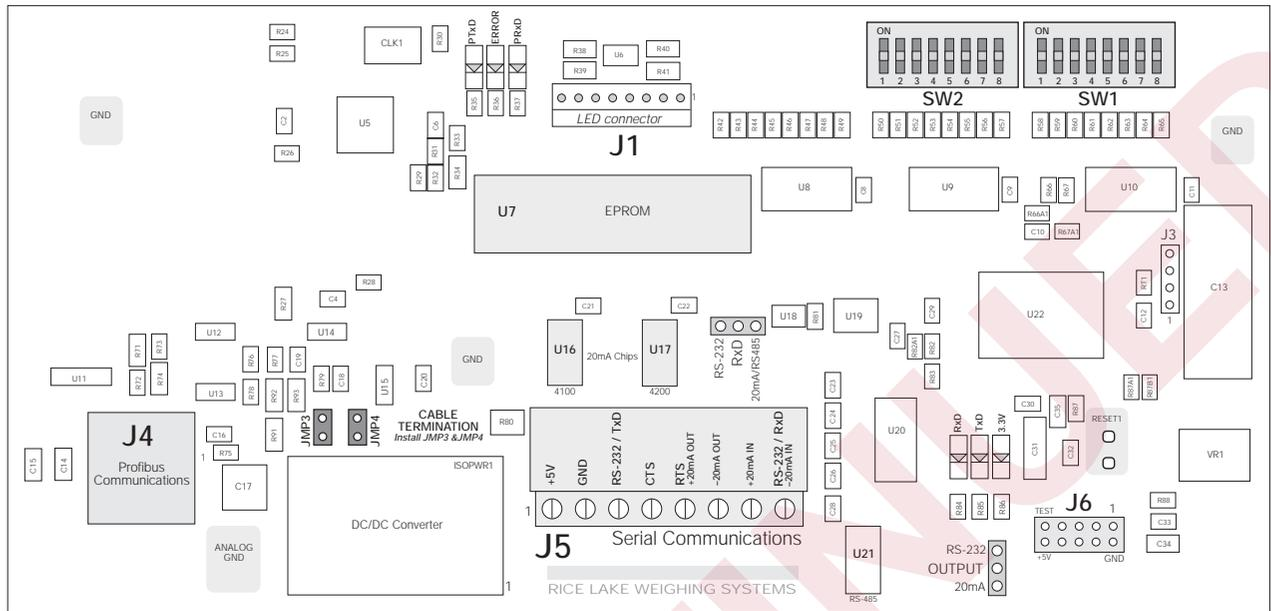
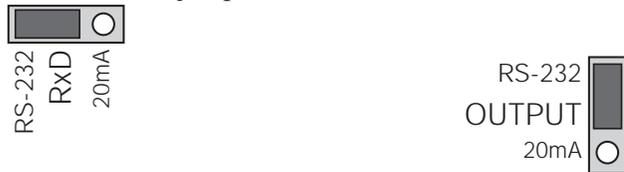
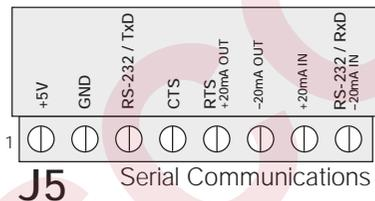

Figure 2-1. Profibus Indicator Interface Board
Figure 2-5. *RxD* and *OUTPUT* Jumpers, Showing Jumper Positions for RS-232 Communications
Figure 2-6. *Serial Communications Connections*
12. Connect serial communications wires from the indicator J4 (or J12) serial connector to the J5 connector on the Profibus Indicator Interface board (see Table 2-1 below and Figure 2-6 on page 6).
19. If the interface is the last device on the network bus, install termination jumpers JMP3 and JMP4 (see Figure 2-1).
The Profibus board (see Figure 2-1) is mounted on brackets above the indicator CPU board. Connections between the two boards are as follows:
Two jumpers, labeled *RxD* and *OUTPUT*, determine whether the Profibus Indicator Interface uses RS-232 or 20 mA current loop (available as an option for IQ plus 800/810 indicators only) for serial communications with the indicator. Leave the jumpers in the position shown in Figure 2-5 for RS-232 communications. See Figure 2-1 on page 3 for board location of the jumpers.
Serial communications connections to the indicator are made at connector J5 on the Profibus board (see Figure 2-1 on page 3 for board location of J5). Figure 2-6 shows the J5 connector layout for the Profibus Indicator Interface. Table 2-1 on page 2 shows the serial communications connections between the Profibus Indicator Interface and the IQ plus 510/710 indicators.
Connections to the Profibus network are made at connector J4 on the Profibus board (see Figure 2-1 on page 3 for board location of J4). Table 2-3 shows the connections from J4 connector on the Profibus board to the DB-9 Profibus connector.
If the Profibus Indicator Interface is the last device on the network bus, install jumpers JMP3 and JMP4 on the Profibus board (see Figure 2-1 on page 3 for jumper locations).